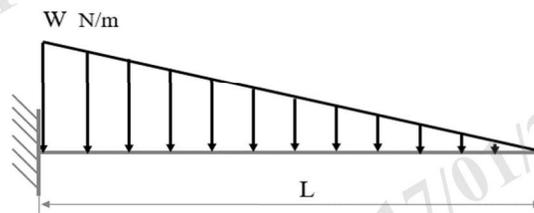

Fig. 2
- Q3 Draw the stress-strain diagram for the mild steel and cast iron. Explain the stress-strain diagram behaviour of both the curves. Also, explain the significance of different stress points for both the cases and indicate them on the curves. (16)
- Q4 A cantilever beam of length L is subjected to a uniformly varying load (UVL) along its span, as shown in the Fig. 2. Derive expressions for the slope and deflection of the beam at the fixed support. (16)